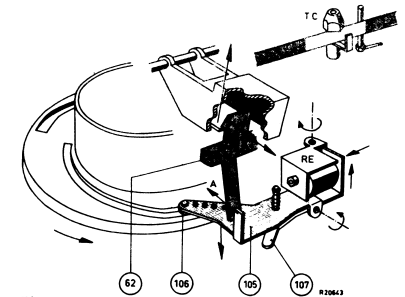

Fig 18
- When the stop key is depressed, this key will press the lock bracket 62 backwards as a result of which the other depressed keys are unlocked. The stop key itself cannot be halted, see fig. 18.